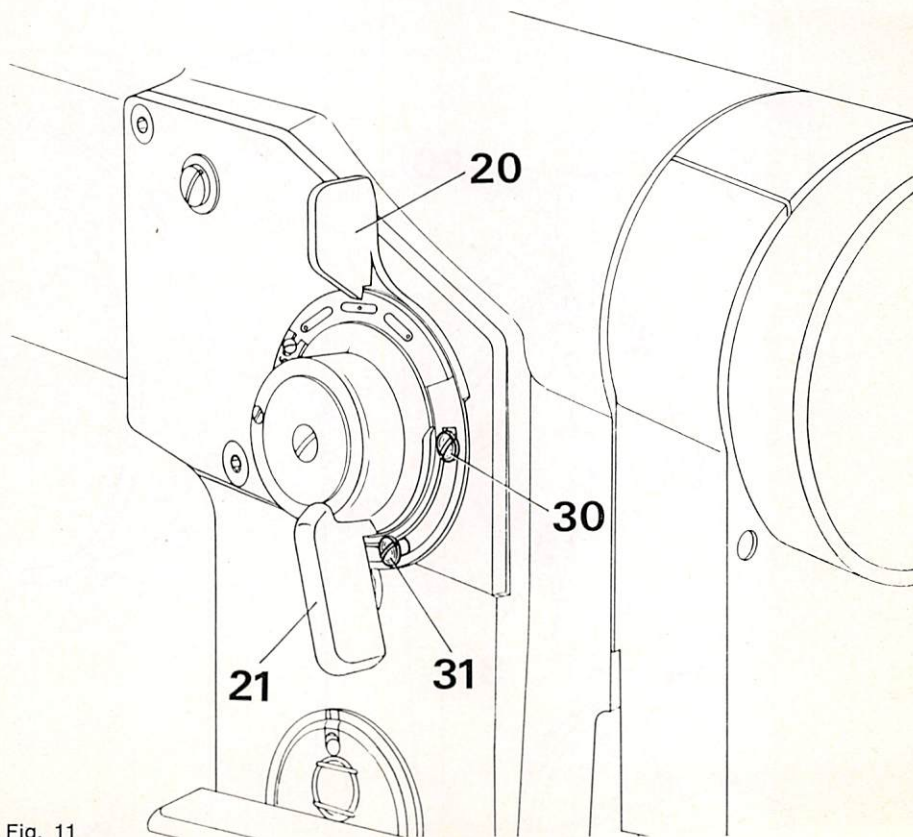

Fig. 11
8.2 Fixing the Right Needle Position (Fig. 11)